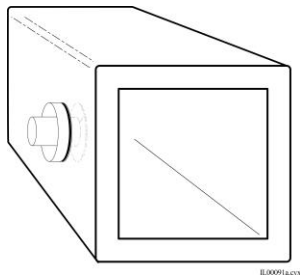

Figure 7. Fiberglass Plenum Takeoff Location
4. Then push and twist the spin-in into the hole as if threading a screw. Spin the takeoff a full 360° around. Inspect the inside of the takeoff to be sure no insulation from the plenum is projecting into the air stream. Continue to spin the takeoff until no excess insulation can be seen down inside the stub of the takeoff. Be sure that the bottom flange is fully engaged on the inside of the plenum. Figure 7 shows a spin-in fully threaded in to the duct.